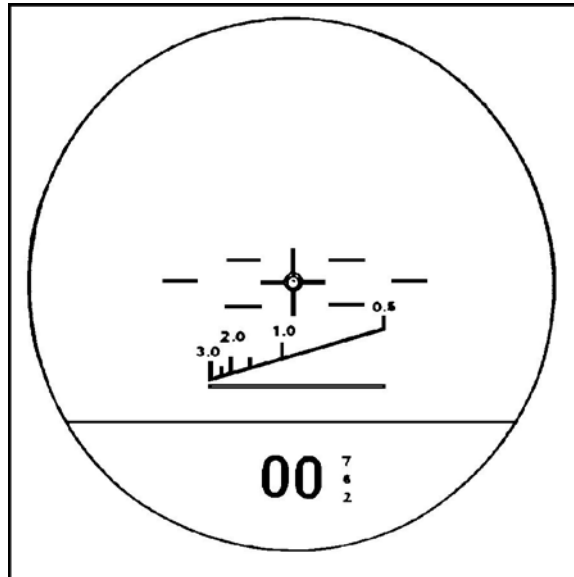

Figure 2. Status indicator.
2. Look into the gunner's eyepiece (Figure 2).